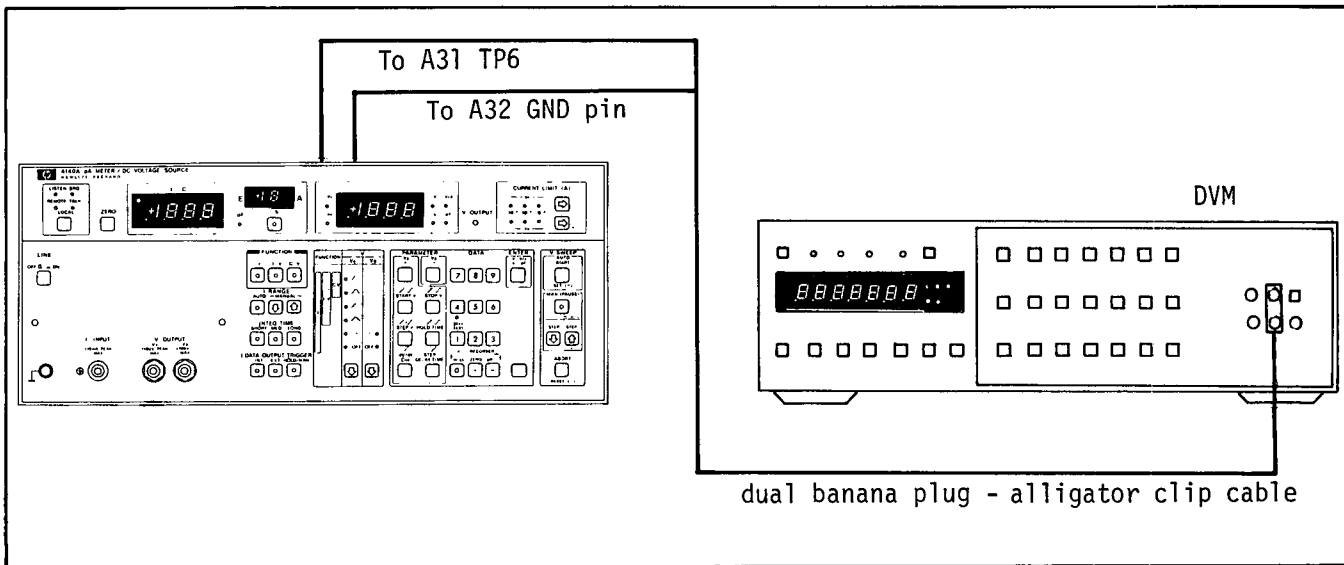

Figure 5-8. Analog Output Adjustment Setup.
1. Connect DVM plus input to A31TP6 and minus input to A32GND pin with dual banana plug to alligator clip cable. See Figure 5-8.